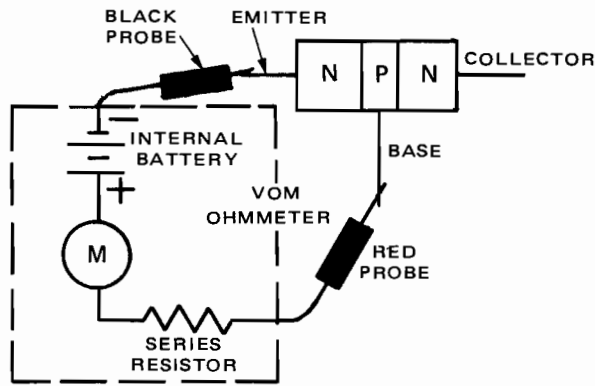

Fig. 13-3-2
4. When an ohmmeter is connected in this manner, it forward biases transistor. See Fig. 13-3-2.